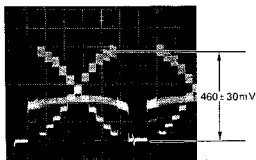

Fig. 5-7
- Adjust data by **ARROW** keys so that signal level becomes $460 \pm 30 \text{ mV}$ as shown in Fig. 5-7.